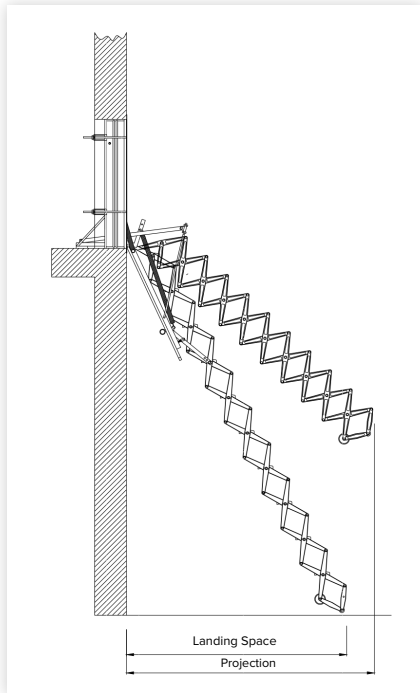

figure 1
- Allowance must be made for the operation of the ladder, as it requires a greater space to open than indicated by the opening in the wall (figure 1);